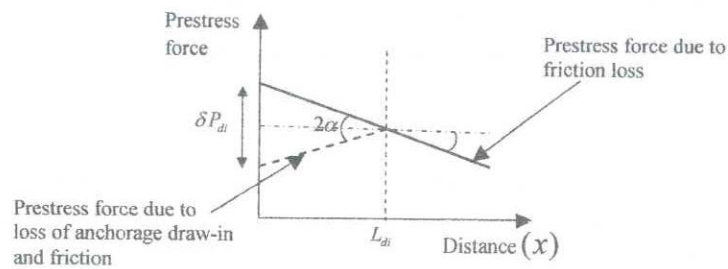

Fig. Q3(b): Idealized Prestressing force along the beam due to the loss of anchorage draw-in and friction
- Loss due to draw-in during anchorage can be calculated as shown in Fig. Q3(b).